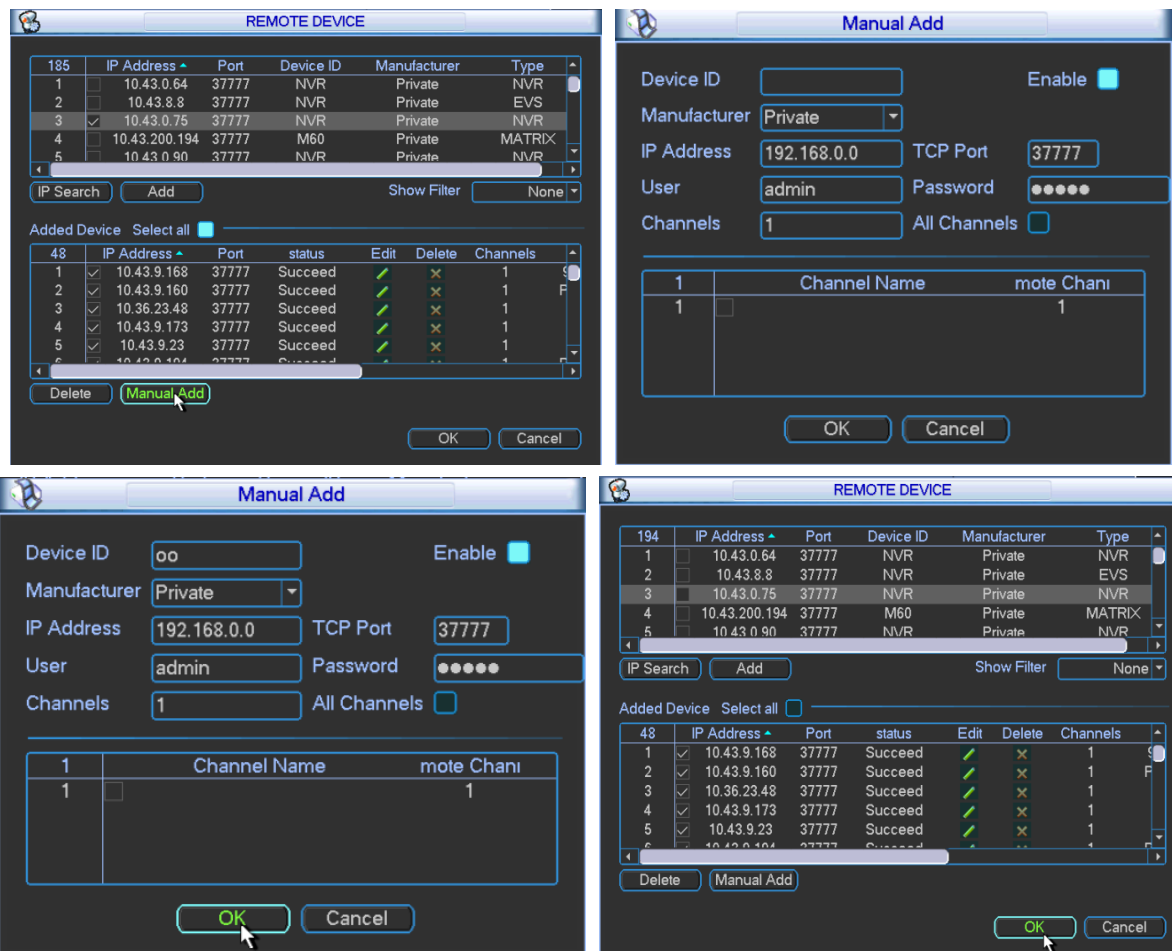

Figure 3-82
- Step 1 Click "Manual Add". The system displays "Manual Add" interface, as shown in Figure 3-82.